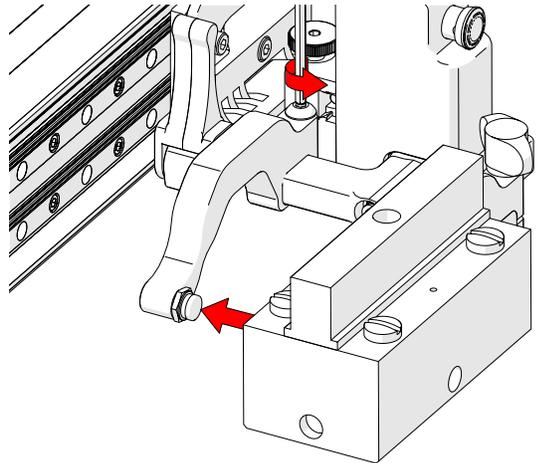

Fig. 47 - Adjust inner arm
4. Loosen the arm clamp screw (Fig. 47).